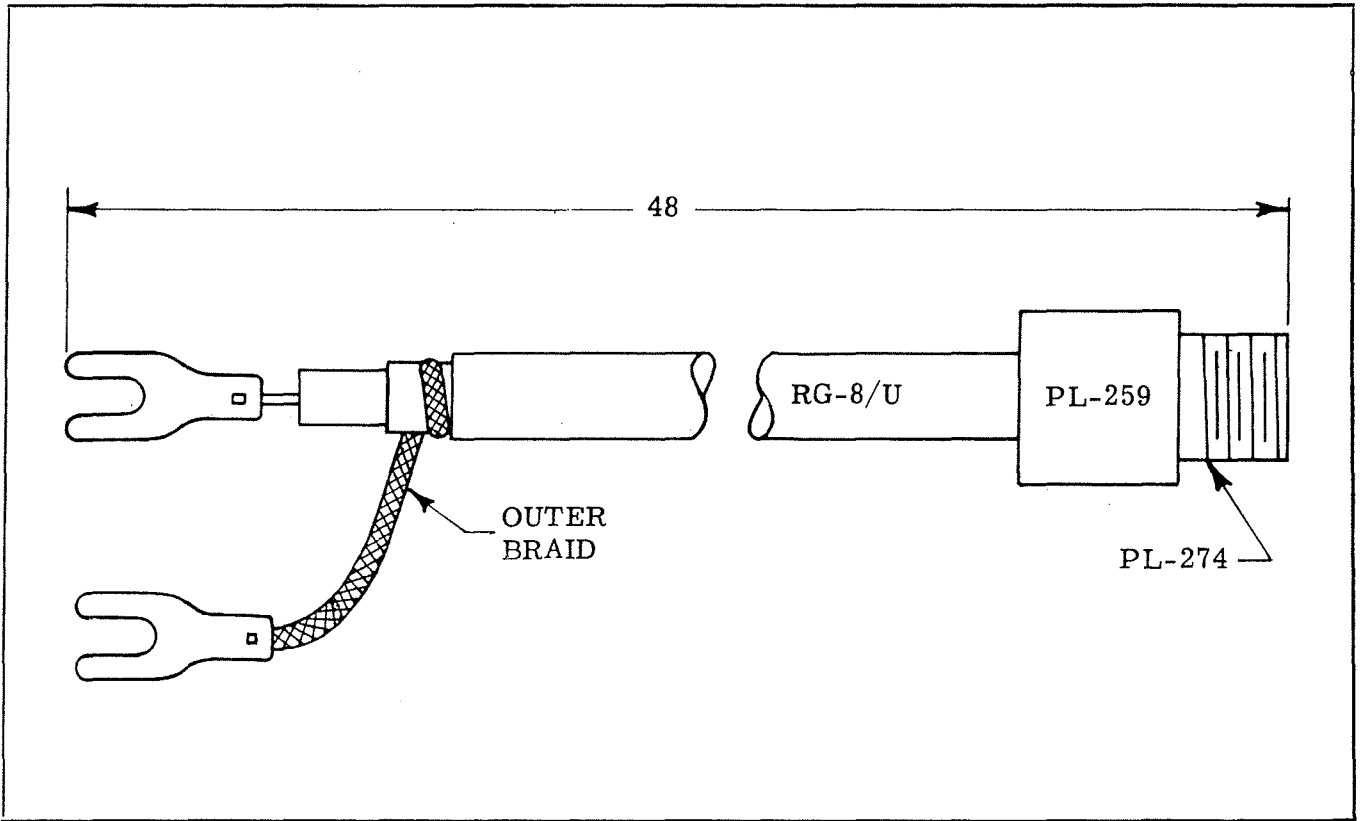

Figure 6-20A.—Test Cord (Terminated with PL-274)—Used with Portable Megger I-48B and Portable Wheatstone Bridge
(1) Portable Wheatstone Bridge: Leeds and Northrup, 0.001 ohm to 1000 megohms, s/n 7800-139500, or equivalent.
(2) Portable Megger: I-48B, 0 to 100 megohms, s/n 7800-809000, or equivalent.
(3) A test lead fabricated as shown in figure 6-20A.
(3) Disconnect the transmission lines at Indicator DC-929-C, Receiver-Transmitter RT-ID/APN-2B, and Receiver-Transmitter RT-157/APN-68.
(4) Connect the bridge to the left receiving antenna co-axial cable of Radar Set AN/APN-2B using the test leads of figure 6-20A. Set up the bridge to read resistance below 1 ohm.